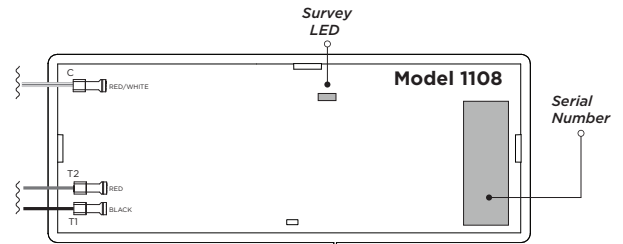
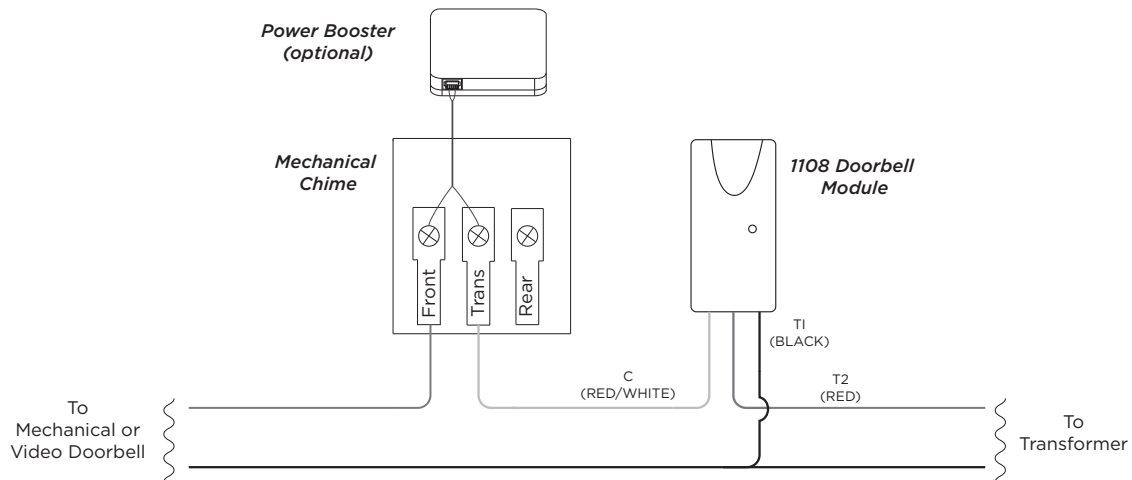
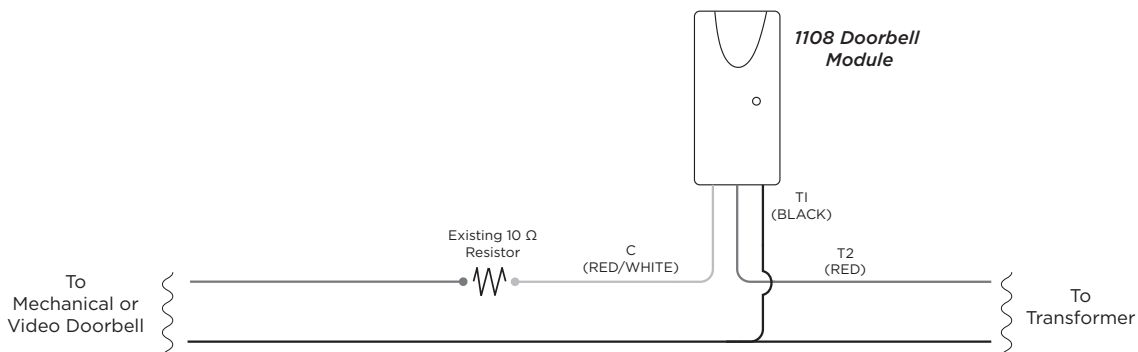

Figure 2: PCB Features
Figure 3: 1108 Wiring with Existing Chime
Figure 4: 1108 Wiring without Chime
2. At **ZONE NO**, enter the wireless zone number. Refer to Figure 2 for serial number location.
The 1108 is intended to be wired between the mechanical chime or resistor and transformer. For wiring with an existing chime, refer to Figure 3. For wiring with a resistor instead of a chime, refer to Figure 4. Refer to Figure 2 for 1108 PCB details and terminal numbers,